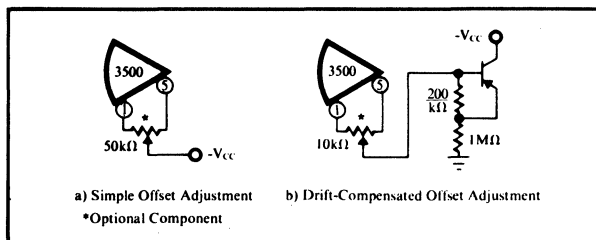

FIGURE 5. Offset Adjustment Techniques.
1.2.3 Case outline. The case outline (8-lead can) is as defined in Figure 5. The case is metal and is conductive.